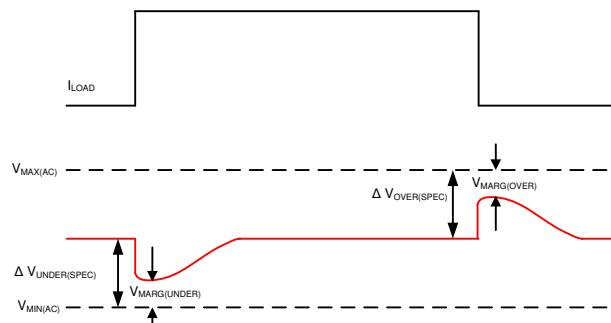
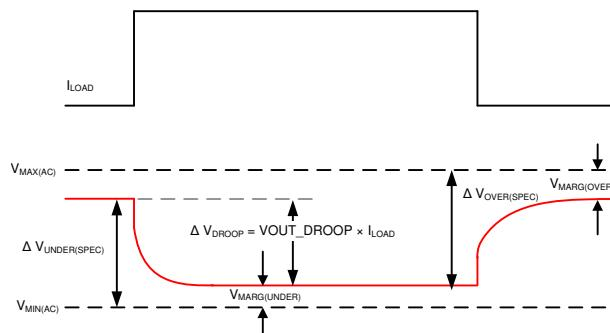

图 7-17. Load transient specification (zero load line)
图 7-18. Load transient specification (non-zero load line)
- Adaptive voltage positioning increases the allowable undershoot and overshoot during load transient events. 图 7-17 and 图 7-18 compare example output voltage specifications for systems with zero load line and non-zero load line. The nominal setting for the output voltage is chosen to be higher, to allow the entire transient window as margin for transient overshoot and undershoot.